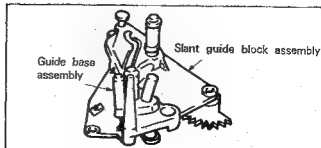

Fig. 7-28.
- 2 Set the slant guide block assembly guide base assembly in unthreaded state (guide base assembly is on front panel side) and mount. (See Fig. 7-28.)